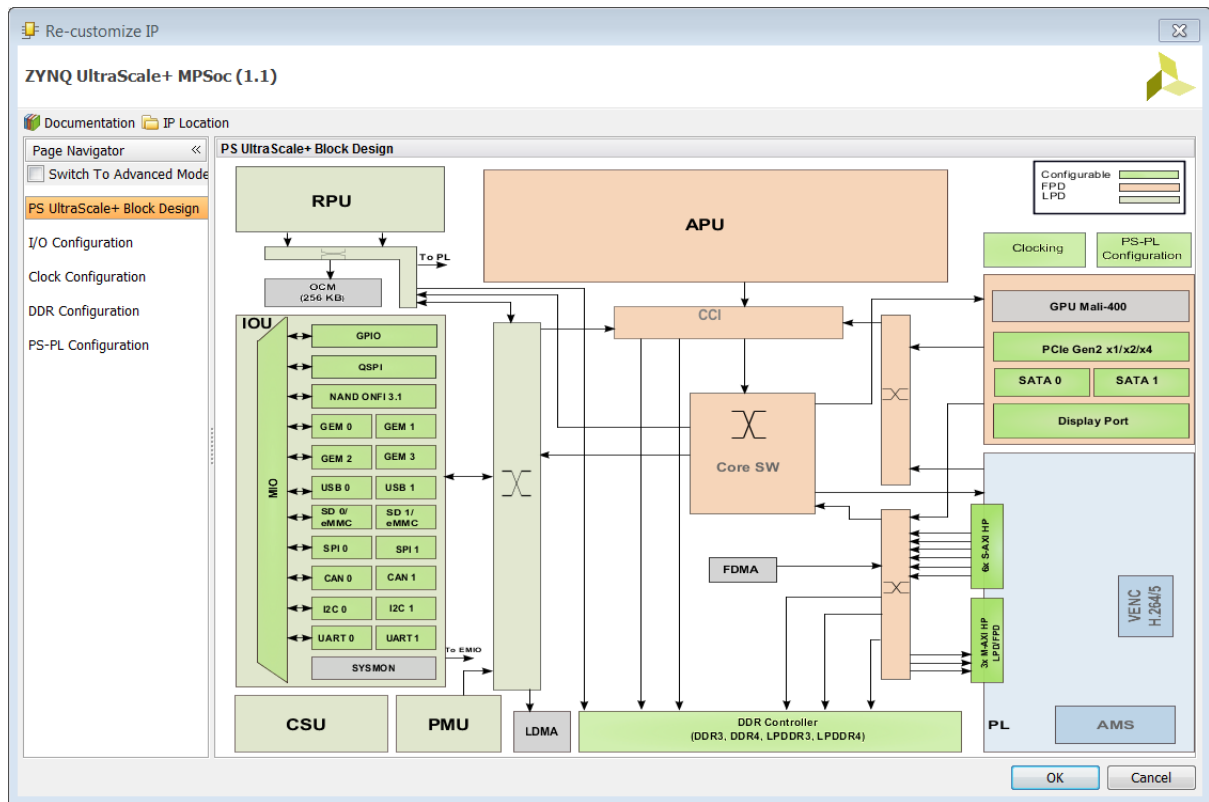

Figure 3-3: ZYNQ UltraScale+ MPSoc Configuration Dialog Box
2. Double-click the processing system graphic to invoke the **Re-customize IP** process, which displays the Re-customize IP for the Zynq UltraScale+ MPSoc dialog box as shown in Figure 3-3.
Alternatively, you can select the options from the Page Navigator on the left, as shown in Figure 3-3.